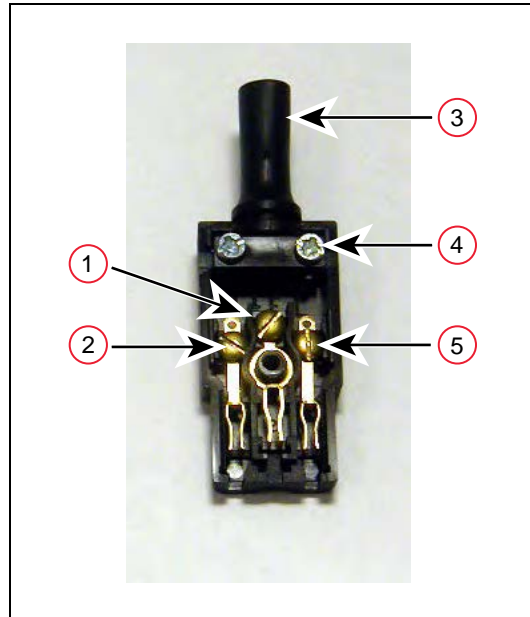

Figure 4-12. AC Power Mating Connector
3. Loosen the two screws on the cable clamp. See Figure 4-12.